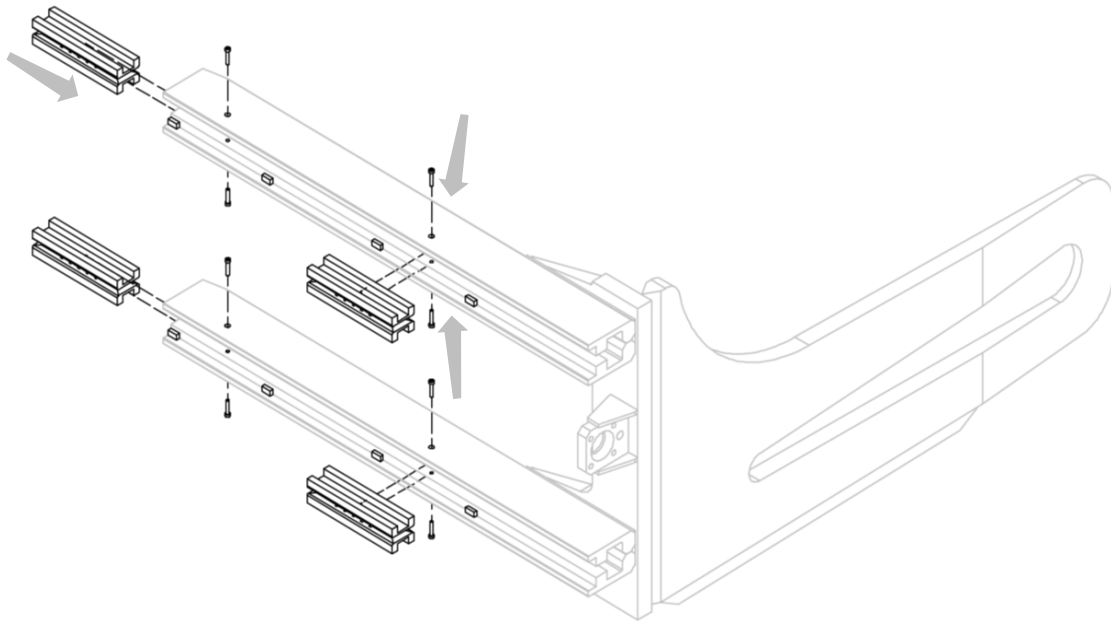
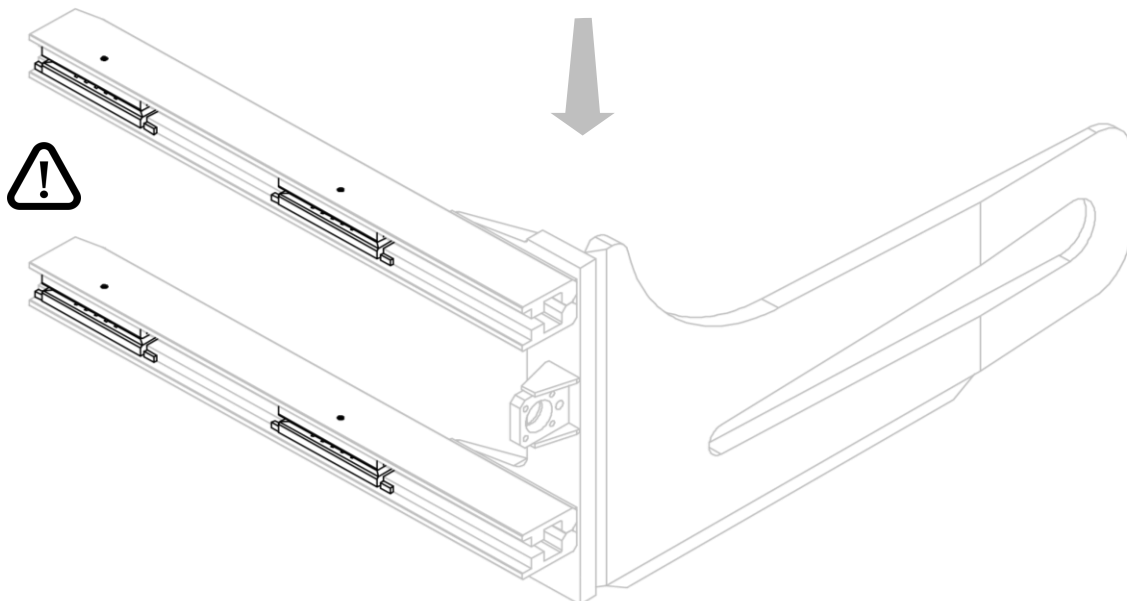

Figure 5
Figure 6
2. Install the slide bushes in the slots of the forks, positioning them correctly between the stop blocks and screwing in the relevant locking bolts (see *Figure 5* and *Figure 6*).